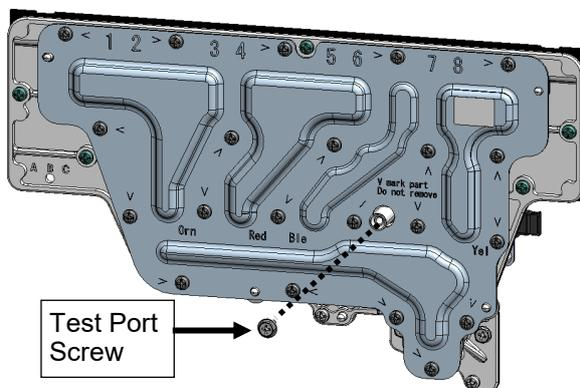

Figure 15
19. Remove the manometer and re-install the test port screw (Figure 15).